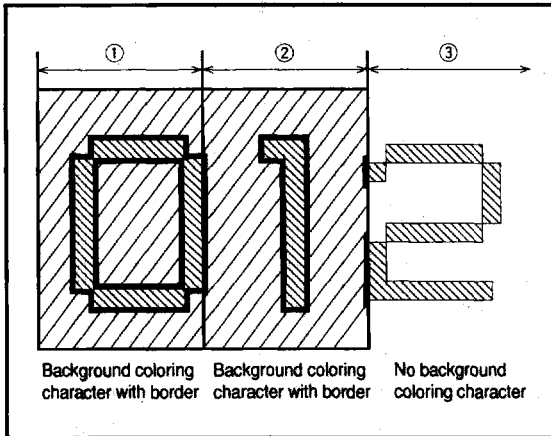

Fig. 44 Notice of character background color function
2 : When the characters (1) and (3) in Figure 44) have the dots which are displayed adjoining a character (2) in Figure 44) whose display type is the background coloring with border, the border of the adjoining characters (1) and (3) in Figure 44) ; bear no relation to the display type ; are displayed in the background area (2) in Figure 44).